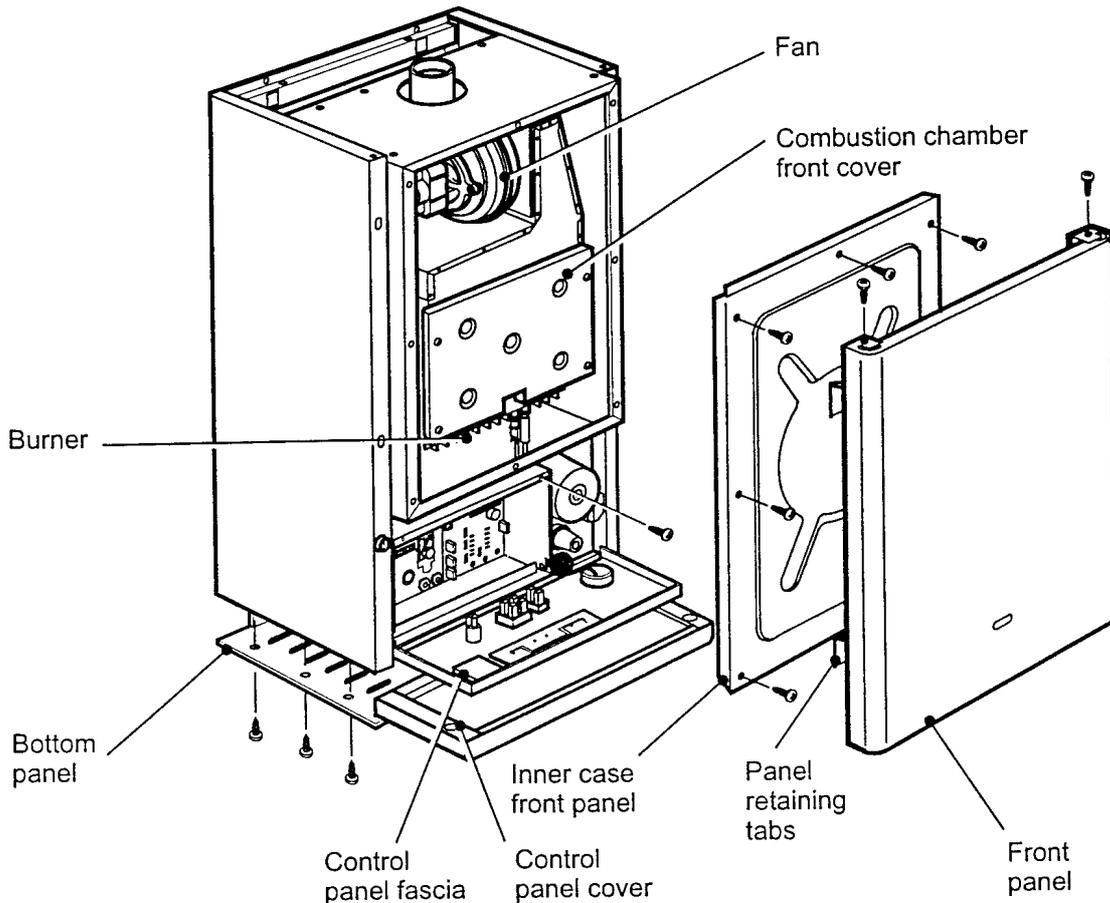

Fig.16
7.2 DISMANTLING PRIOR TO SERVICING (See Fig. 16)